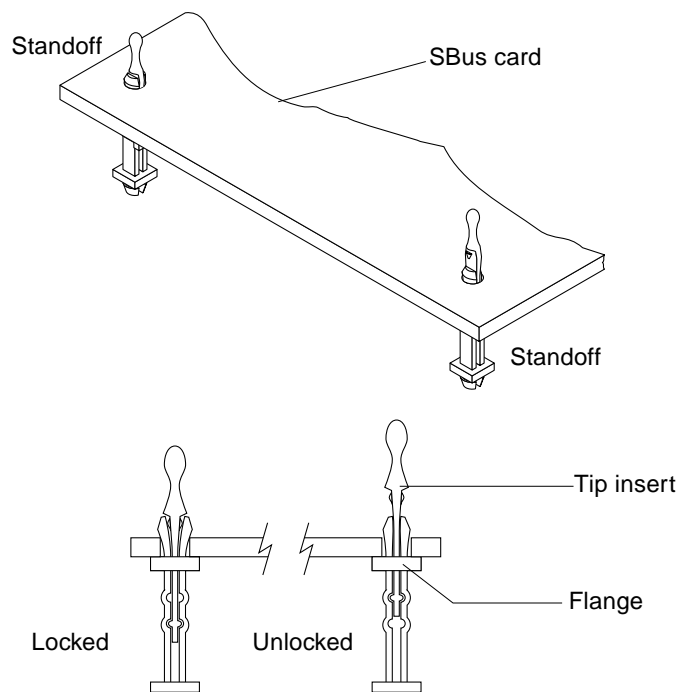

Figure 4-11 Locking and Unlocking Standoffs
Plastic standoffs lock the SBus cards to the I/O boards. See Figure 4-11.
See Figure 4-11 on page 4-16.
4. Unlock the tip inserts of the two standoffs for the SBus slot. See Figure 4-11 on page 4-16.